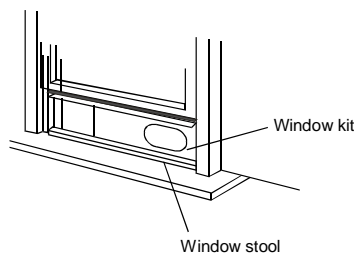

Fig.12
3. Cut the foam seal(adhesive type) to the proper length and attach it on the top of the window. Shown as in Fig.12